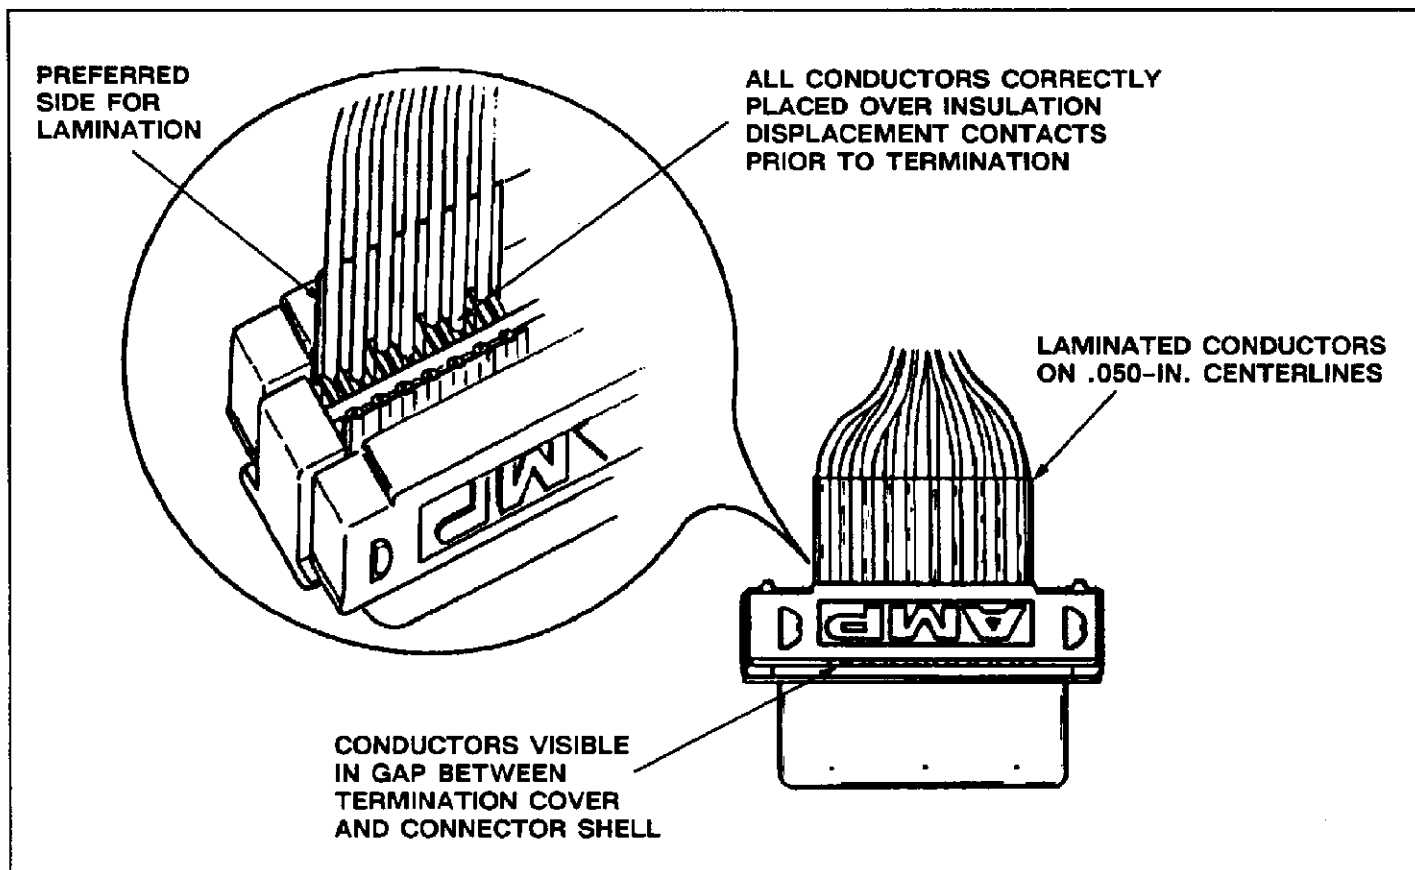

Fig. 2
4. Visually examine the connector for correct placement of conductors over insulation displacement contacts by looking at the gap between each termination cover and the connector housing flange. Conductors should be visible in the gap. See Figure 2.